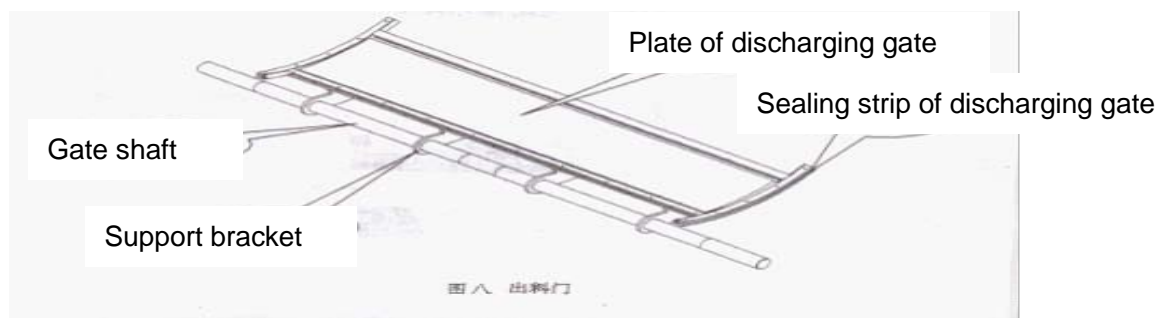
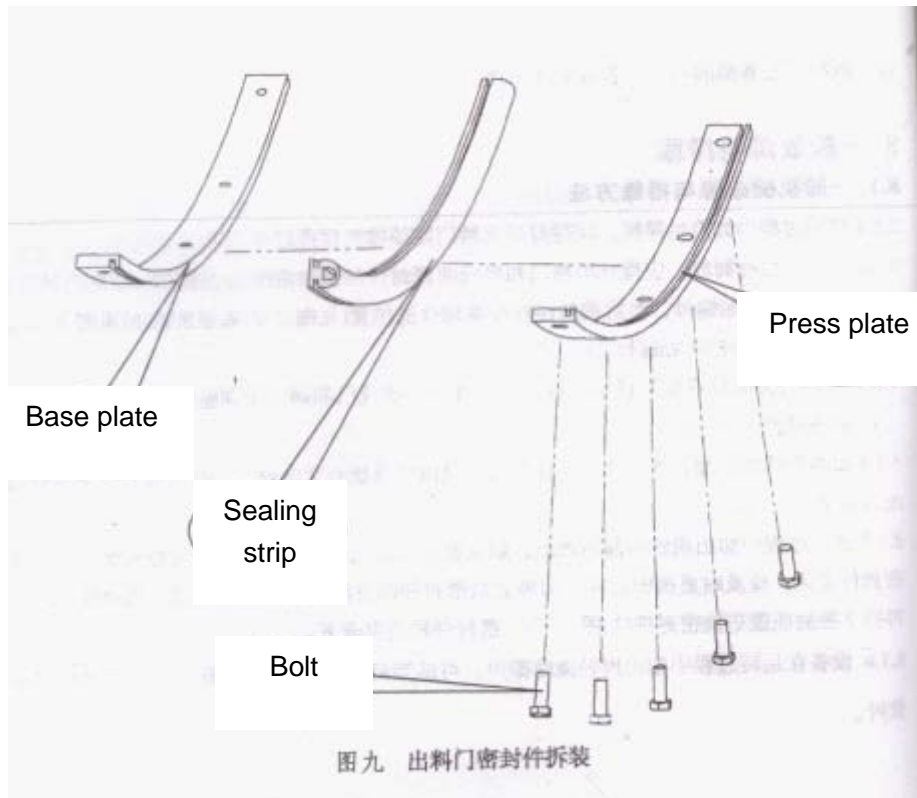

Fig. 8
Fig. 9
10.1.2 If material leakage occurs at the discharge gate, it is necessary to check the contacting condition of the discharge gate with the housing. If the discharge gate cannot be closed tightly, loosen the nuts on both ends of the connecting lever firstly, and then adjust the length of the connecting lever to a proper position (see Fig. 2); if it is caused by an aged seal strip (see Fig. 8), the seal strip should be replaced (see Fig. 9);